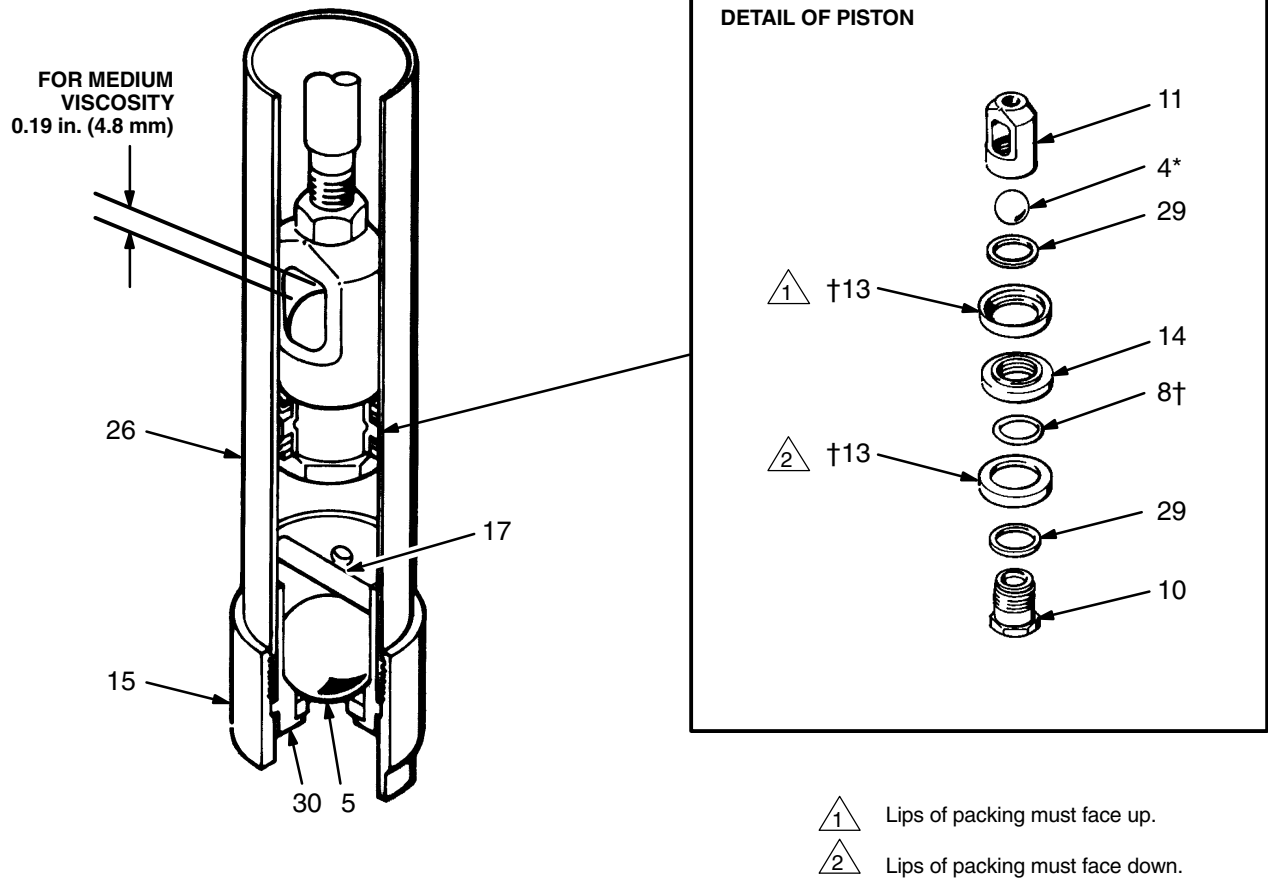

Fig. 4
2. Unscrew the intake valve housing (15). Remove the valve seat (30), pin (17), and ball (5). See Fig. 4.
5. Unscrew the coupling nut (25) and push the piston assembly through the bottom of the cylinder.
6. Hold the piston housing (11) with a wrench and screw the piston seat (10) out of the housing.
8. Assemble a washer (29), packing (13†), o-ring (8†), spacer (14), packing (13†), and washer (29) onto the piston seat (10). See the piston detail in Fig. 4 for the proper direction of these parts.
9. Place the ball (4) on the piston seat (10) and screw the seat firmly into the piston housing (11).
10. Check the piston ball travel. For medium viscosity fluid, the clearance should be 0.19" (4.8 mm). See Fig. 4. Refer also to Check Valve Adjustment on page 10.